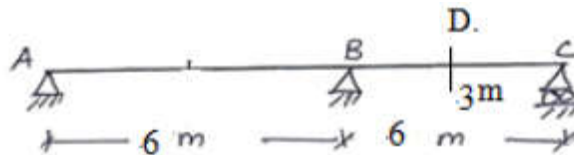

Figure 8
11. Draw the influence line for shear force at D, the midpoint of span BC, support moment M_B of a continuous beam shown in figure 8. Compute the influence line ordinates at 1.5m intervals. [10]